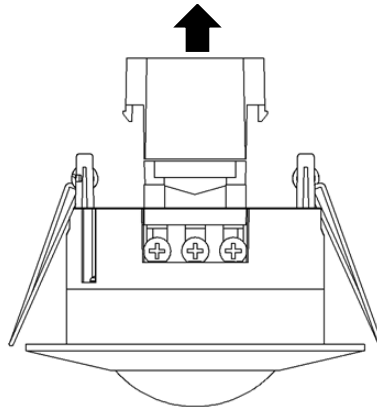

Fig 1
- Remove clear cable connections cover (see Fig 1)